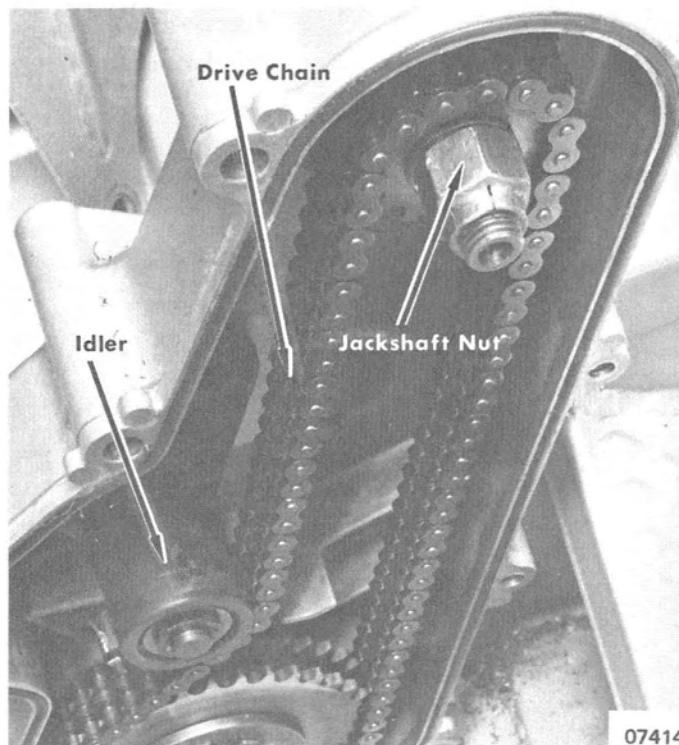

Figure 3. Chain and Jackshaft Nut
3. Remove jackshaft nut from jackshaft (Figure 3) and remove driver sprocket and chain from jackshaft. Remove chain from drive sprocket.